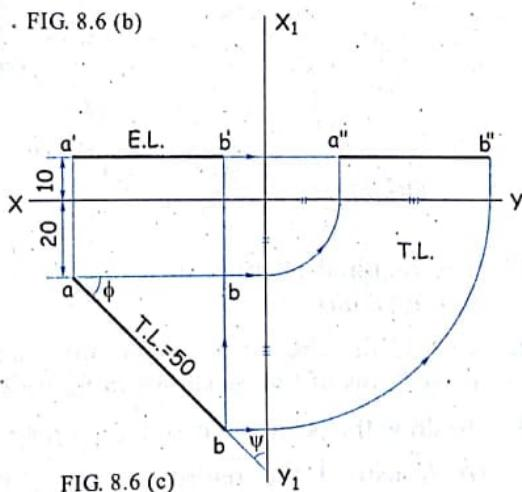

FIG. 8.6 (c)
1. The required position of a line AB is shown in figure 8.6 (a), with its projections, i.e. F.V. ($a'b'$) and T.V. (ab).